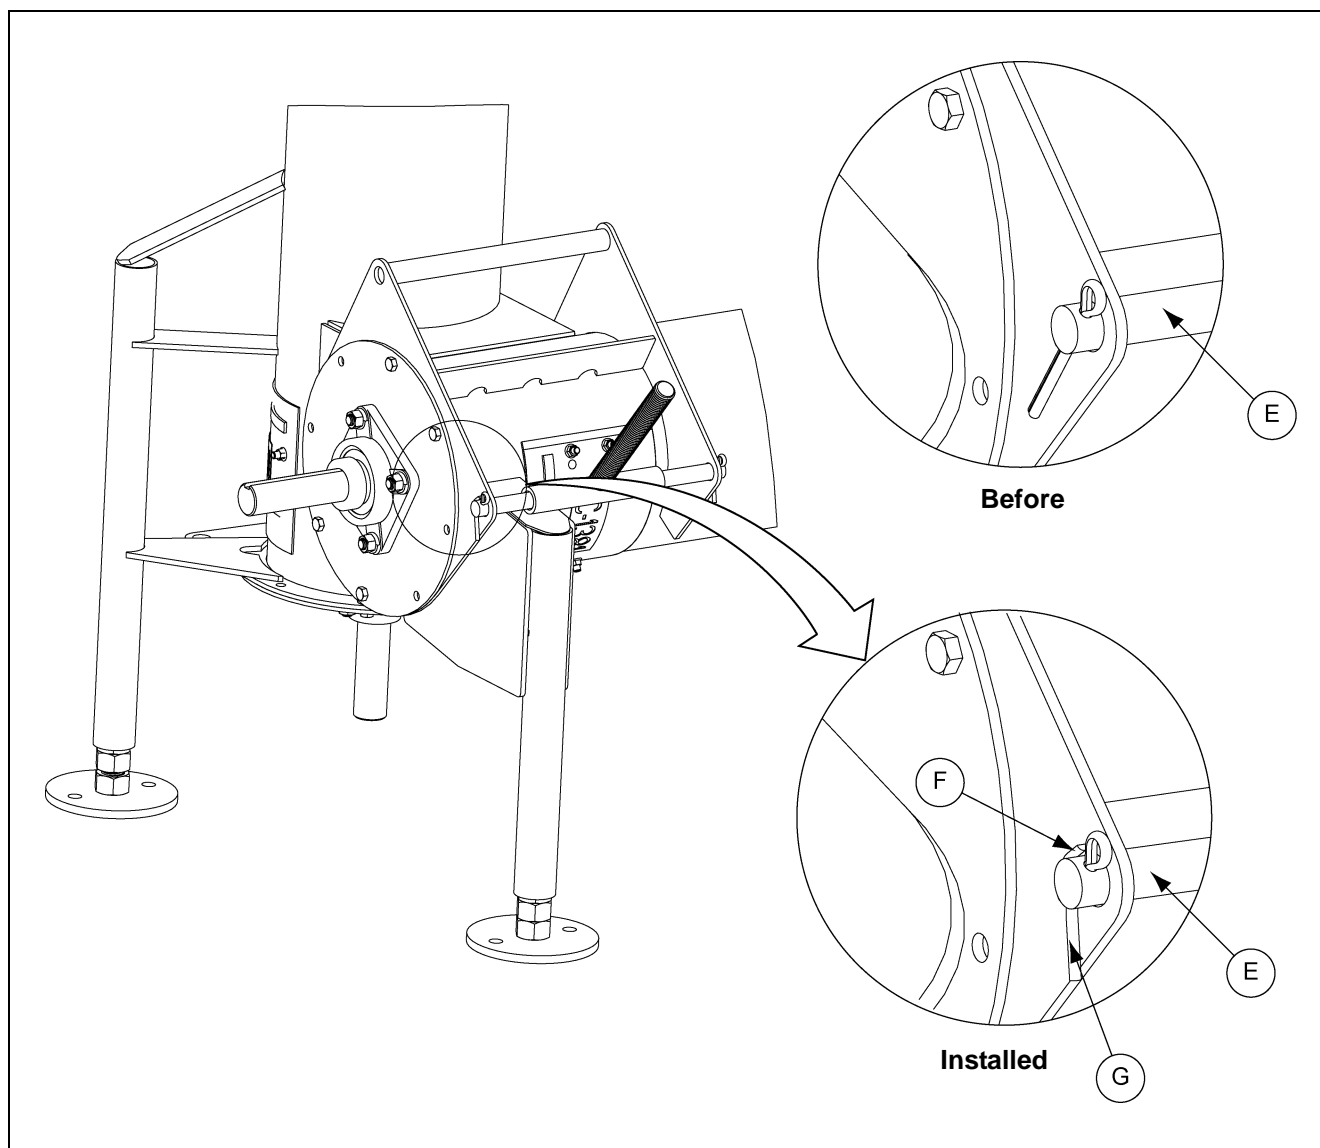

Figure 3G
C. With the cotter pins in the *pivot rod (E)*, bend one tab of the cotter pin back so that it touches the *pivot rod (E)* and bend the other tab of the cotter pin away from the first tab. (See Figure 3G.)